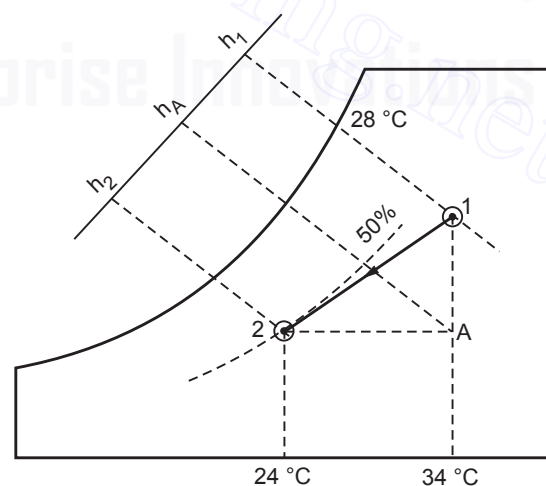

Fig. 5.106
**Sol. :** Refer Fig. 5.106 (a) on next page.